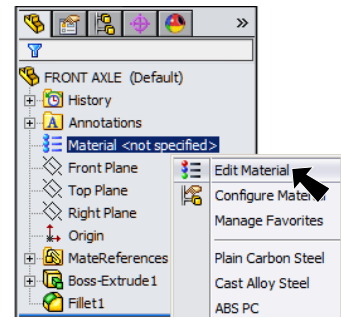

Fig. 11
- Step 1. Right click Material  in the Feature Manager and click Edit Material, Fig. 11.